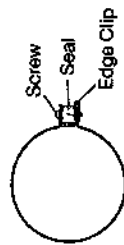

Fig. 18a
- 5.5.21 Assemble the large and small maintenance clips as shown in fig 18A